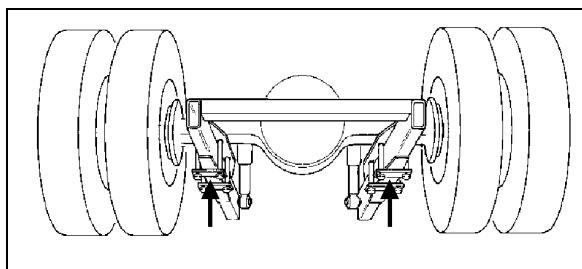

FIGURE 5: JACKING POINTS ON DRIVE AXLE
8. Install jacks under the axle jacking points to support the axle weight (refer to figure 5).